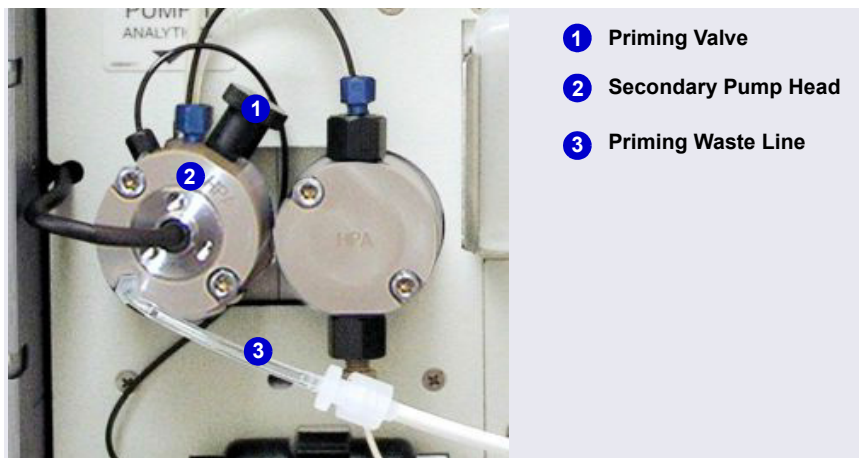

Figure 10-3. DP/SP Priming Valve
5. Open the priming valve on the secondary pump head (see Figure 10-3) by turning it one-half turn counterclockwise.
1. Open the priming valve on the secondary pump head (see Figure 10-3) by turning it one-half turn counterclockwise.